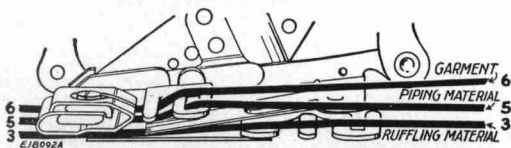

FIG. 67. CORRECT POSITIONS FOR THE MATERIALS
- (1) Insert the material to be ruffled between the two blue blades **Line 3, Fig. 67**. This material must not exceed  $1\frac{1}{4}$  inches in width.
- (2) The piping material is usually cut on the bias and it should be about  $\frac{1}{4}$  inch wide when folded in the center. Place the piping material in the ruffler, following **Line 5, Fig. 67** with the folded edge of the piping to the right.
- (3) Fold the edge of the material to which the piping and ruffling are to be attached and insert it in the ruffler, following **Line 6, Fig. 67**.